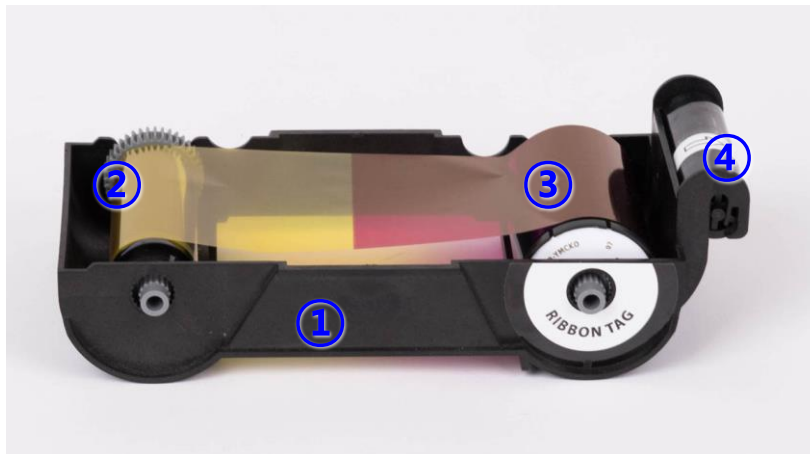

Figure 6 Ribbon cartridge features
- ① Ribbon cartridge
- ② Take up parts
- ③ Supply parts
- ④ Disposable cleaning roller
① Ribbon cartridge
② ③ Take up & Supply parts
- Ribbon is wrapped to the supply parts as the Picture. It should be installed as the Figure.6
④ Disposable cleaning roller